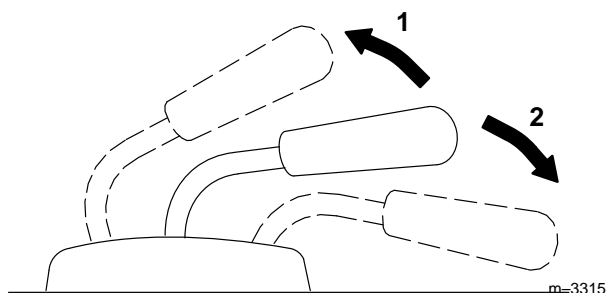

Figure 24
2. Pull the lift lever UP to raise the attachment (Fig. 24). This will lift and hold the attachment in the raised position.
2. Push the lift lever **DOWN** to lower the attachment (Fig. 24).